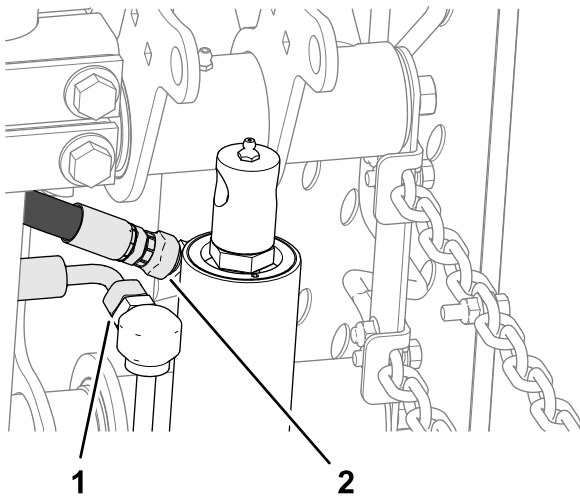

Figure 14
2. At the lift cylinder, loosen the straight swivel fitting of the return hose and the 90° swivel fitting of the lift hose (Figure 14).